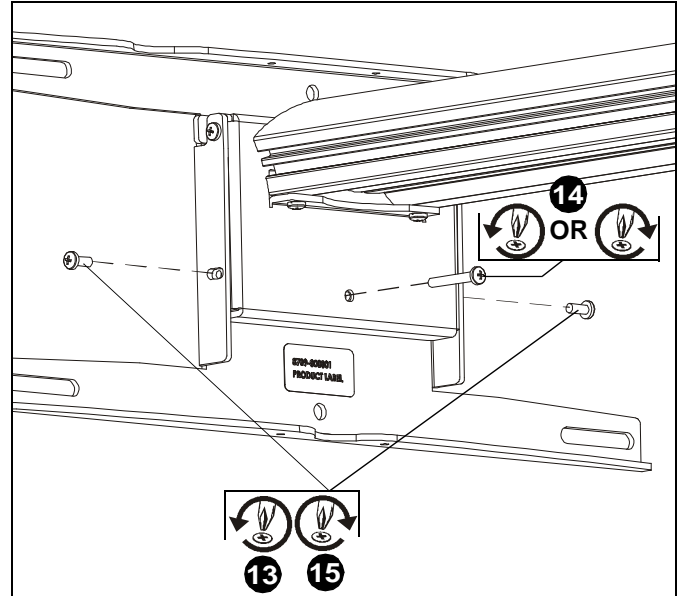

Figure 16
13. Loosen two Phillips screws (one on left, one on right) on sides of projector arm plate. (See Figure 16)
15. Tighten two Phillips screws (one on left, one on right) on sides of projector arm plate. (See Figure 16)